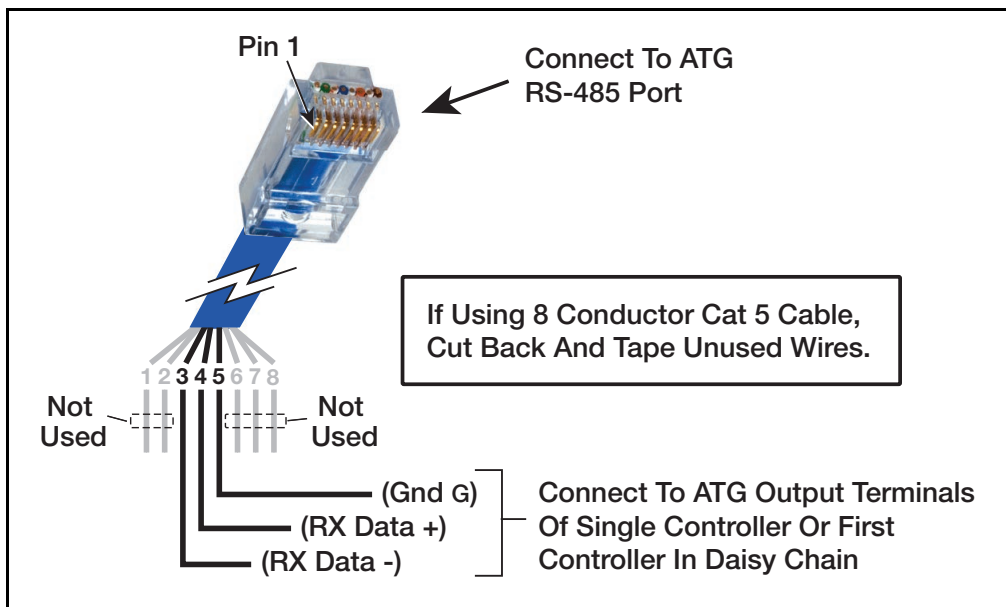

Figure 4. RS-485 Serial Cable Pinouts
3. Prepare a satisfactory length of 3-wire cable having a RJ-45 connector on one end (connects to TLS-450PLUS and no connector on the end that connects to the FE Controller(s) ATG output terminals (see Figure 4).